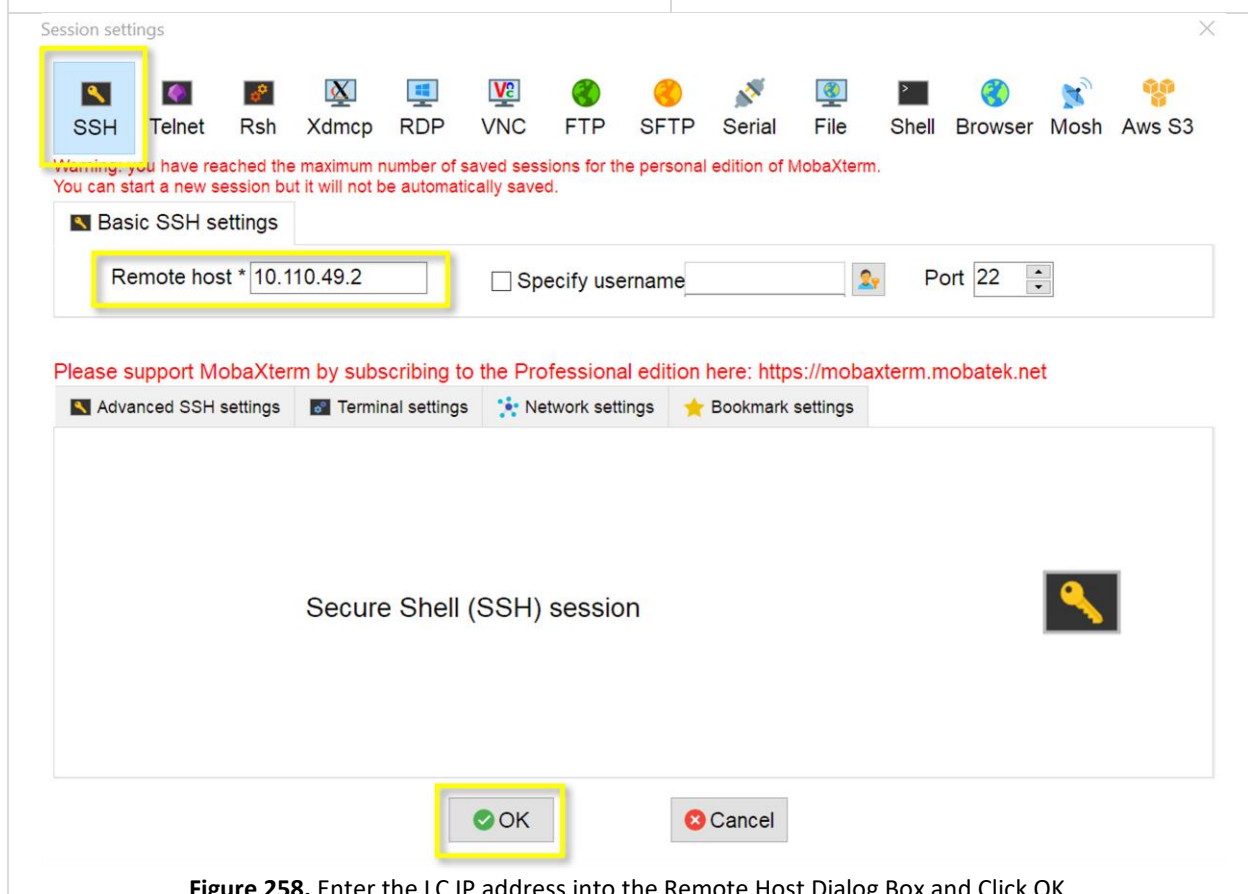

Figure 258. Enter the LC IP address into the Remote Host Dialog Box and Click OK.
STEP 4 | Enter the LC IP address into the Remote Host Dialog Box (**Figure 258**) and click OK. No need to input a username at this step.